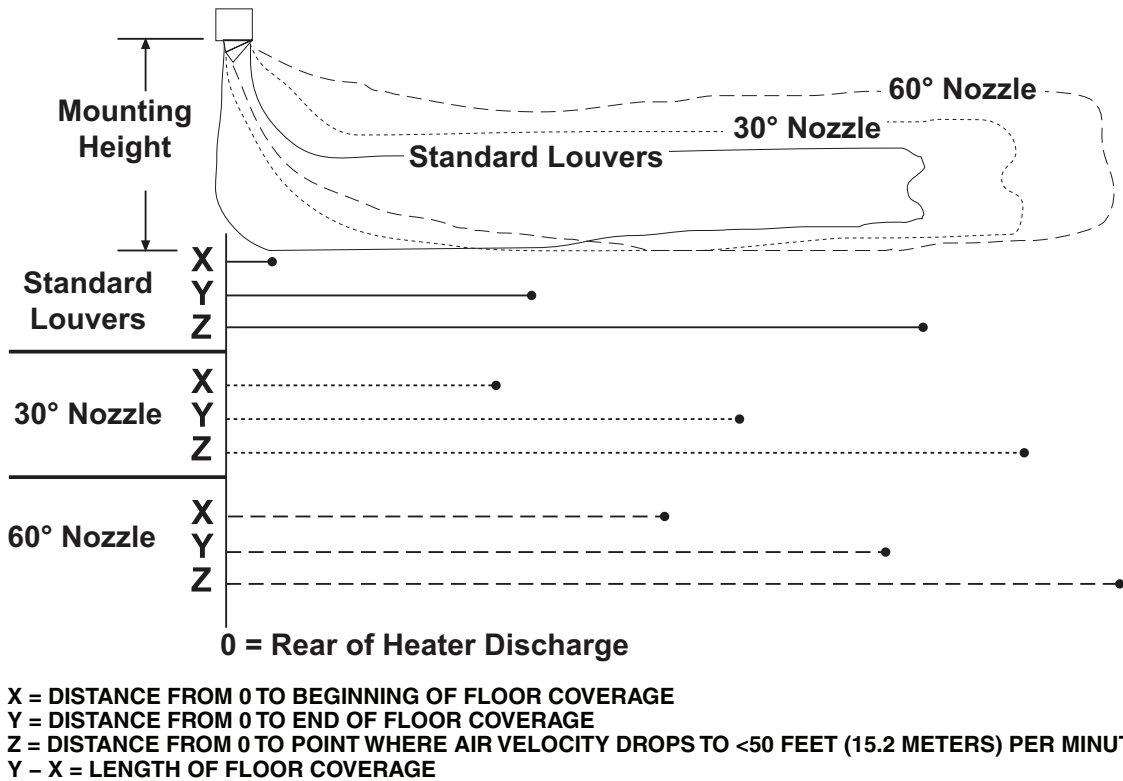

Figure 2. Heater Throw Patterns (Refer to Table 2)
Figure 2 shows throw patterns for all unit sizes in heat mode at high speed. **Table 2** lists throw distances for standard louvers facing one direction and fully open. Throw pattern changes with louver angle, two-way louver direction, and/or optional four-way louvers.
*See Figure 2.